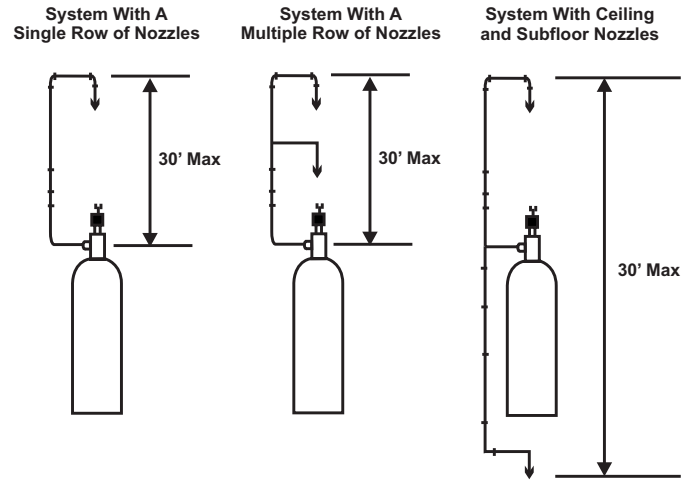

Figure 4-4. Nozzle Limitations
**Note:** If you have a system design that violates these limits, then you must consult the factory to determine what course of action should be taken (see Figure 4-4 for further clarification).